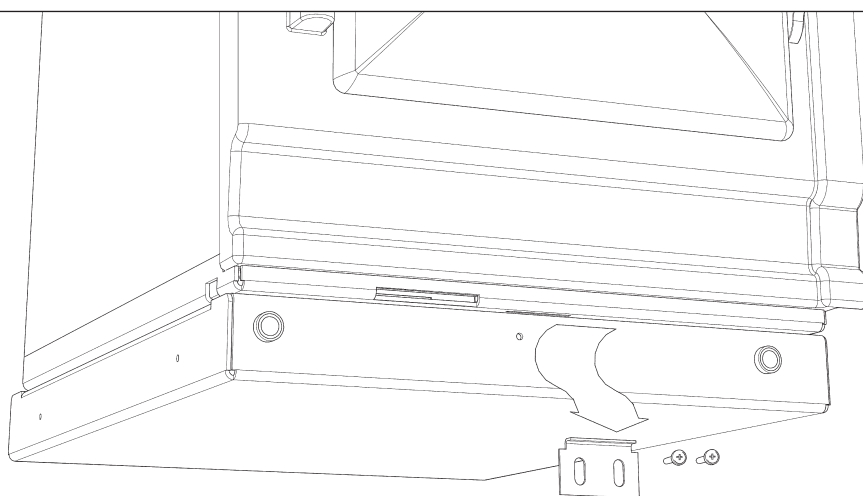
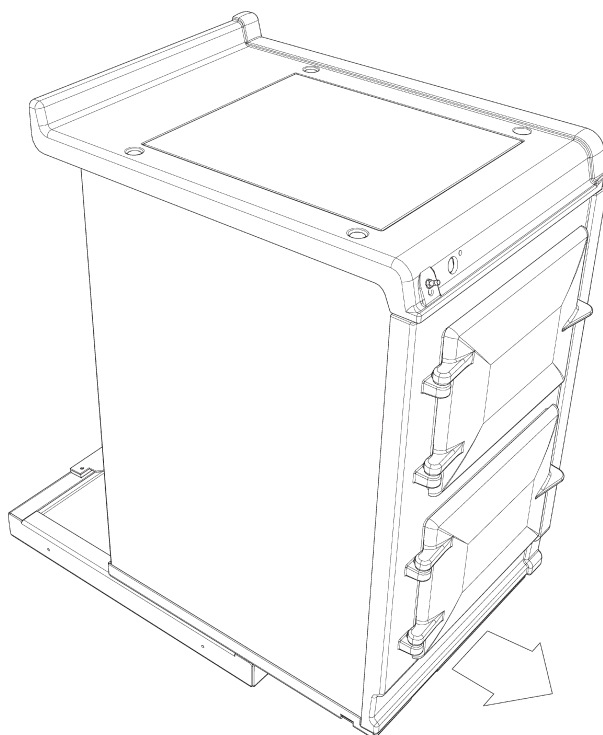

Fig. 12.1
Fig. 12.2
1. Detach hotcupboard from plinth by removing two screws and tongue bracket from plinth (**Fig. 12.1**), slide hotcupboard forwards and away from rear fixing bracket (**Fig. 12.2**).